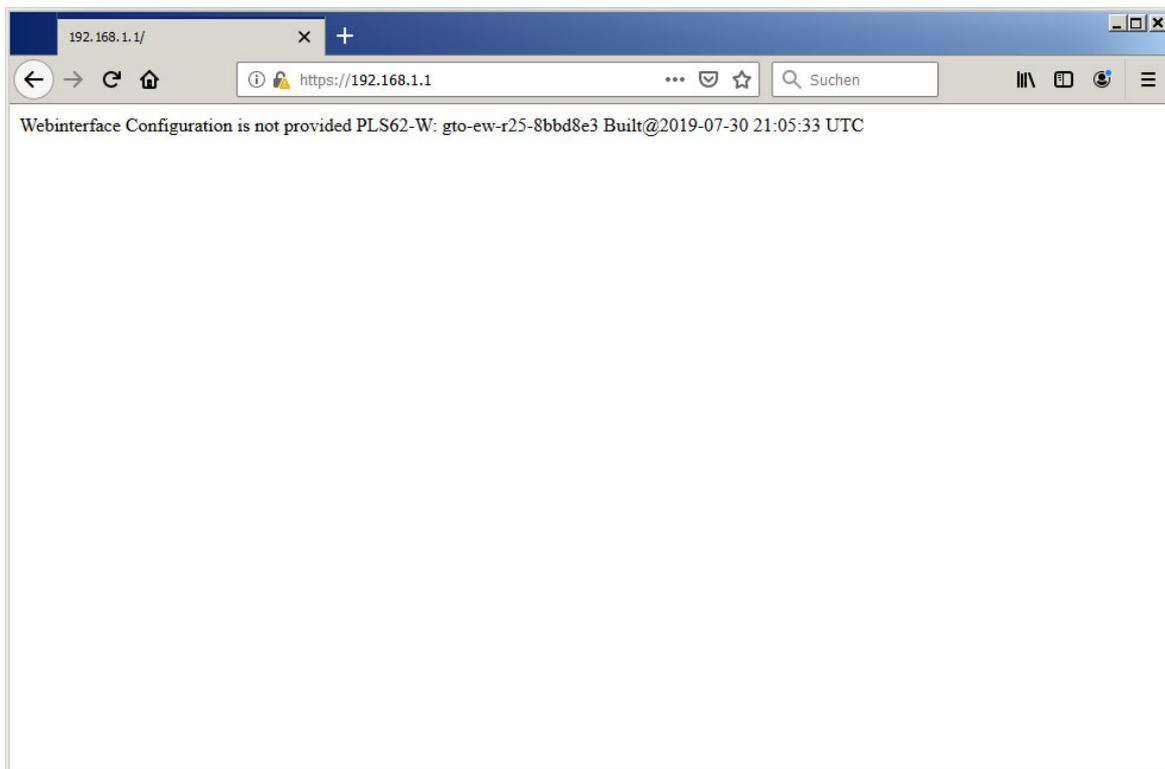

Figure 41: Firmware update done
- Update is finished and the password is reseted to the initial password when the following screen appears (see Figure 41).